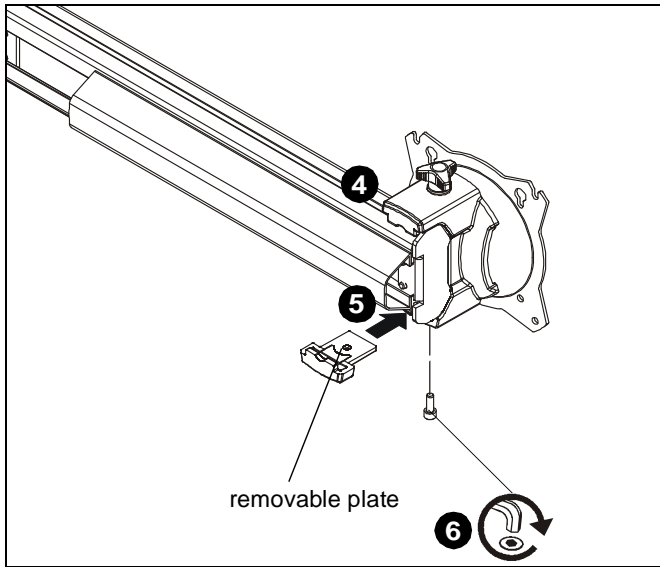

Figure 24
4. Place faceplate assembly on array arm at desired mounting position. (See Figure 24)
5. Slide removable plate back into slot at bottom of faceplate assembly. (See Figure 24)
6. Reinstall hex head bolt removed in Step 1 to secure faceplate assembly to array arm. (See Figure 24)